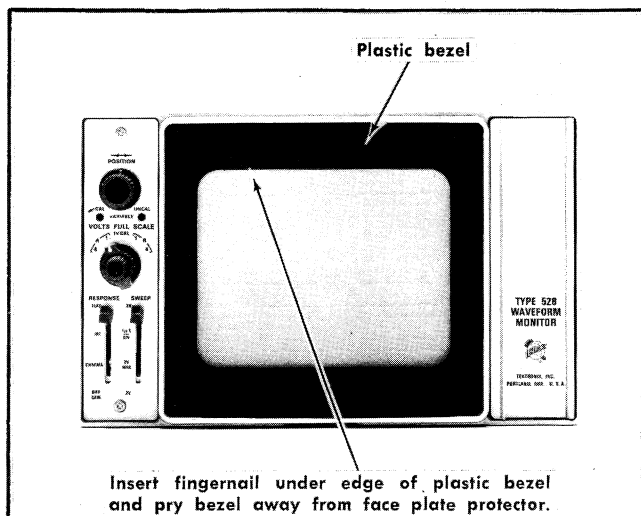

Fig. 4-7. Remove the plastic bezel.
2. Remove the plastic bezel as shown in Fig. 4-7.